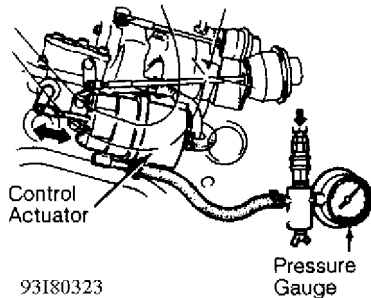

Fig. 4: Testing Control Actuator (RX7)
1) Ensure engine is cool. Remove hose connected to actuator. Connect air pressure source to pressure gauge. See Fig. 4. Apply air pressure to actuator.